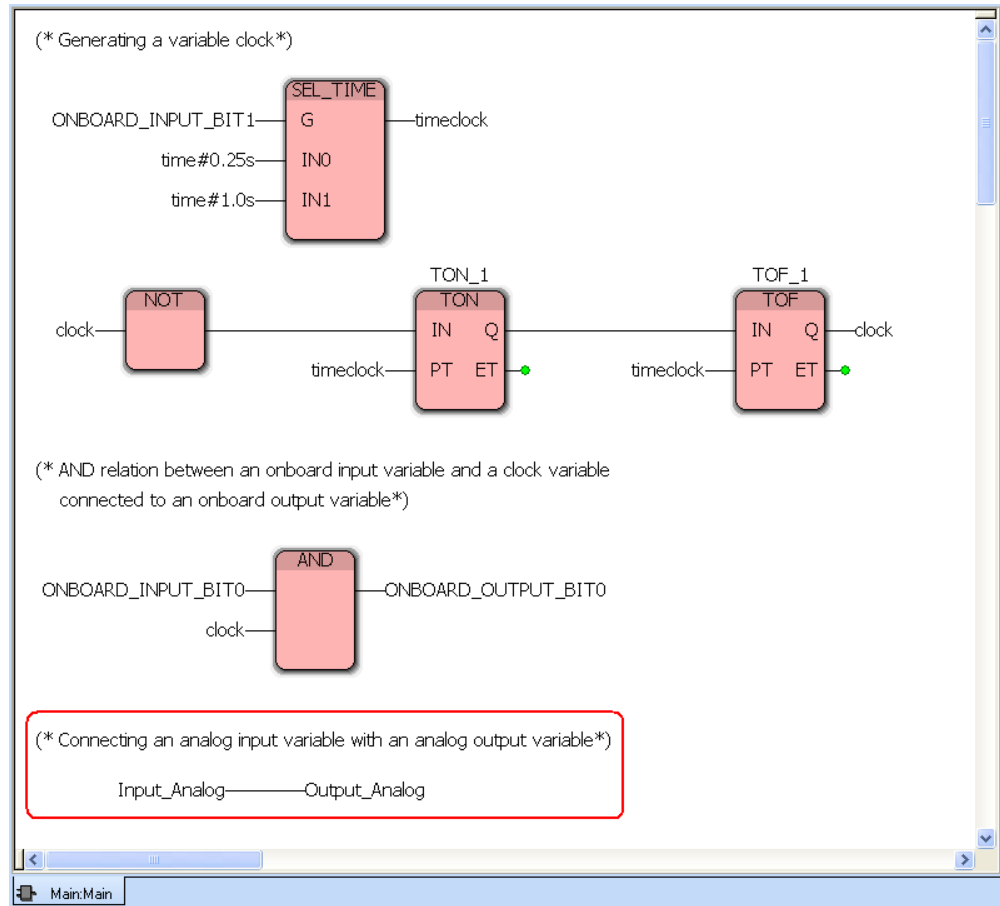

Figure 5-44 Analog value variables
Do not delete the worksheet. Modify the program created in “Generating a variable clock” on page 60 according to Figure 5-44.
To enter the program code in the worksheet according to Figure 5-44, carry out the following steps:
- Connect both variables according to Figure 5-44 on page 62.